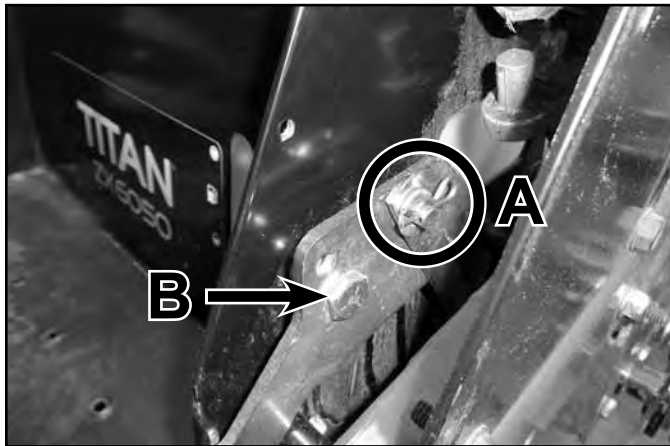

Fig. 042
3. Remove the parking brake pin and washer (A). Remove the parking brake link from the handle stud (Fig. 042).
4. Remove fastener (B) that secures the parking brake handle to the control box assembly. Remove the handle from the unit (Fig. 042).